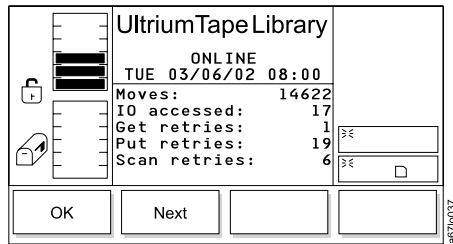

Figure 86. Statistics Dialog
4. To view usage statistics for the library, press the button below the **Next** softkey. The Statistics Dialog displays (see Figure 86 on page 102) with the following information: